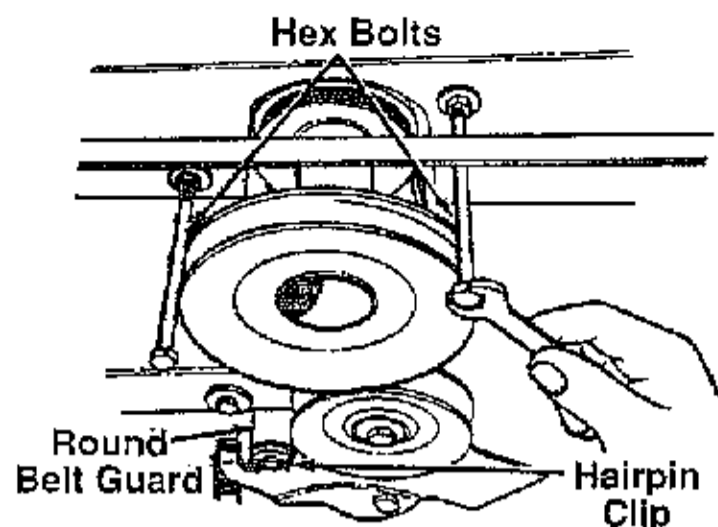

FIGURE 4.
9. **Models 1463834H and 146W834H:** Replace the round belt guard by the idler pulley (hex side down). Replace the hex bolts (belt keepers) by the engine pulley. Refer to figure 4.
1. **Models 1463834H and 146W834H:** Working beneath the tractor, remove the round belt guard from the idler by removing the hairpin clip. See figure 4. Remove the two hex bolts which act as belt keepers by the engine pulley.